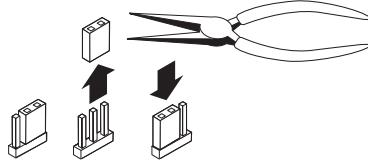

Figure 2-5 — Changing jumper settings
4. To change the jumper configuration, use pliers to pull the jumper shunt off the pins, then place the jumper on the appropriate pins (figure 2-5).